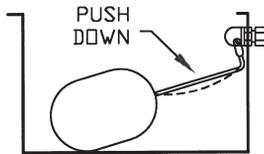

Figure 9: Raising the Water Level
- To raise the water level, push down in the center of the float arm (see Figure 9, below).